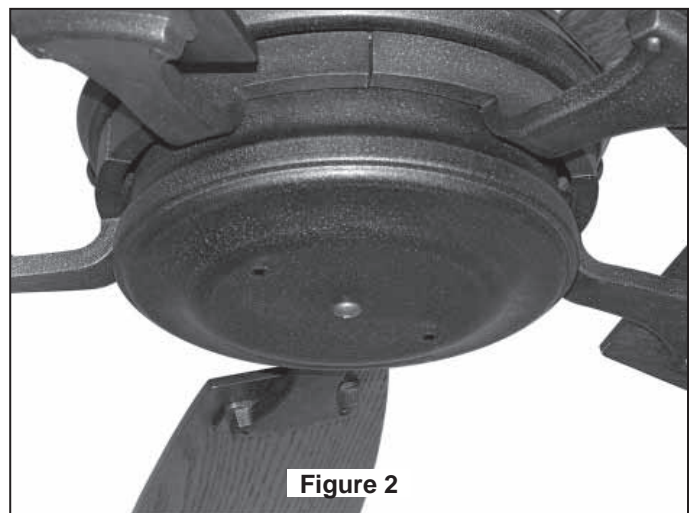

Figure 2
2. Securely attach the Canopy Housing to the Hanger Bracket using the external lock washers and knurled knobs supplied with your fan (Figure 2).
4. Attach assembled blades and blade holders to the motor hub using the provided screws. (Figure 2)
2. Install the assembled switch cup cover (align the two orange dots) using two flat head screws provided. (Figure 2).